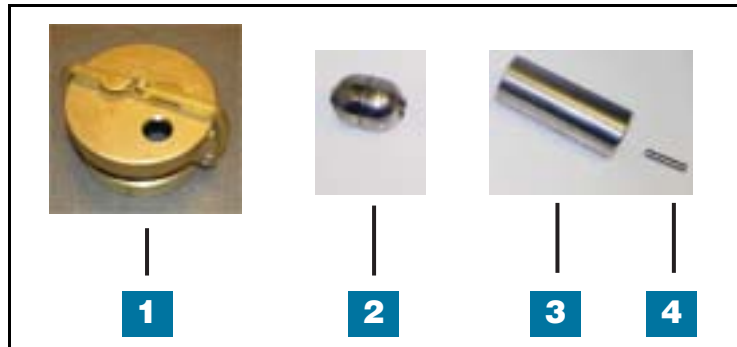

Figure 9. MAG-XL Flex Probe components - manway install
3. Slide the components (see Figure 9) onto the bottom end of the tube in the following order:
- 4-inch riser cap (insert end of probe through the 3/4" tapped hole in the riser cap) (item 1)
- Product Float (item 2)
- Stainless steel weight which holds the probe straight (item 3)
- 2" to 3/4" Adapter/Reducer (item 1)